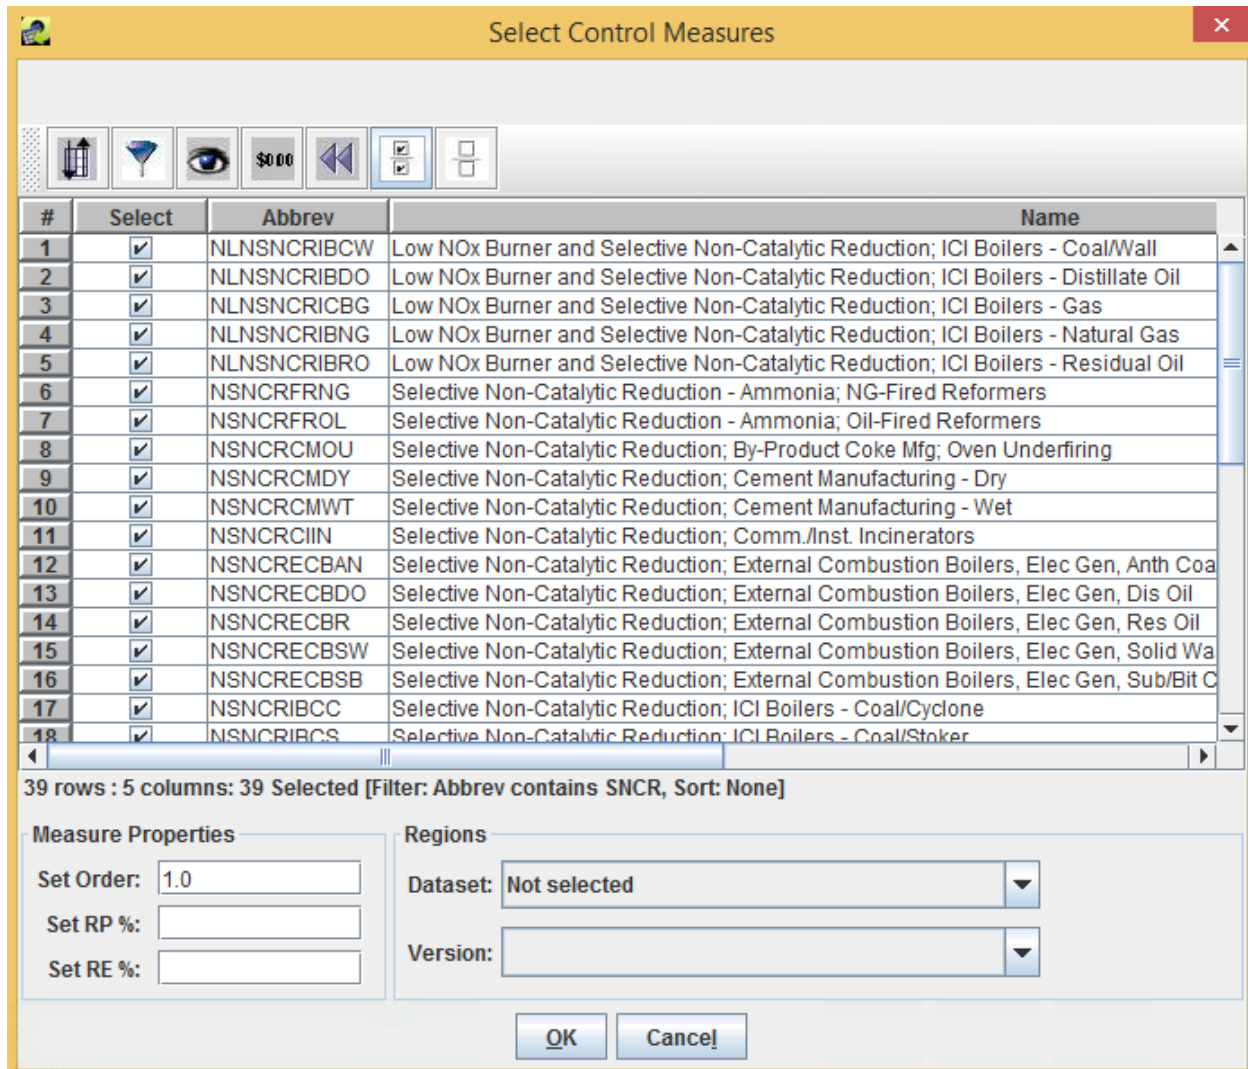

Figure 4.12: Dialog to Add Specific Control Measures to a Strategy
**Step 4-20: Select Specific Control Measures.** To select specific measures for inclusion in the strategy, click the **Add** button under the **Measures to Include** table to show the **Select Control Measures** window (Figure 4.12). In this window, set a filter to find all measures with the same control technology. Use the checkboxes in the **Select** column to